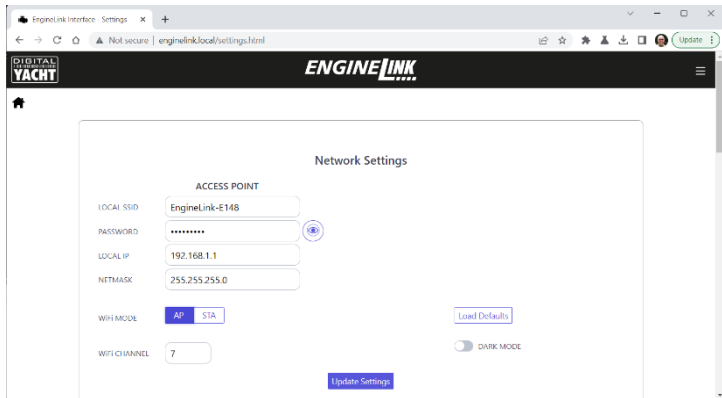

Figure 11
By default, EngineLink operates in Access Point (AP) mode and creates its own wireless network with a default name and password. You can change the network name and wireless password as shown in Fig 11.